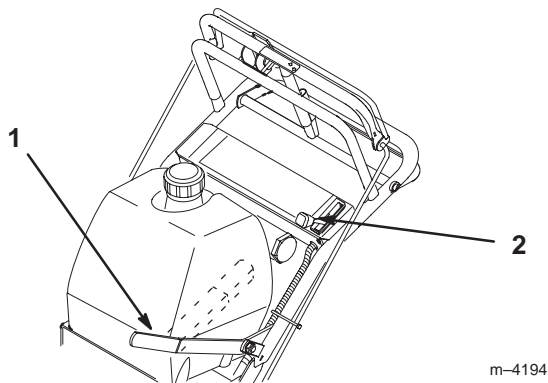

Figure 16
1. Move the throttle lever to slow (Fig. 16).
2. To stop the engine pull the throttle all the way back, to stop (Fig. 16). Wait for all moving parts to stop before leaving the operating position.